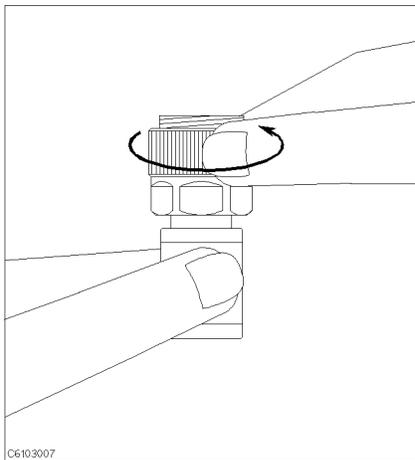

Figure 3-9.
12. Turn only the APC-7[®] connector nut of the $50\ \Omega$ termination as shown in Figure 3-9.